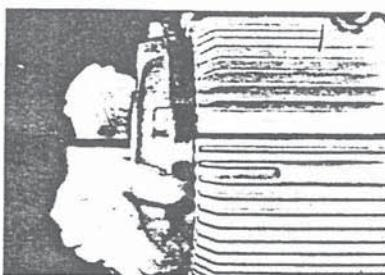

Fig. 8-8
- k) Insert a screwdriver into the gap between the shield on the driven side and the frame to remove the faucet, and then withdraw the shield from the frame. (Fig. 8-8)